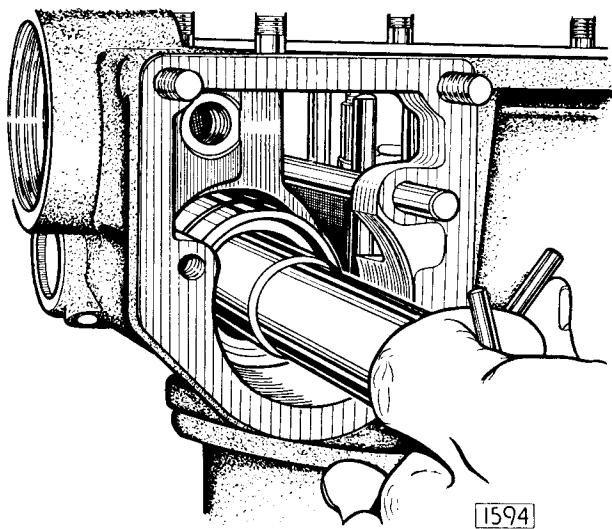

Fig. 38. Extracting the accumulator piston housing. (Tool No. L.182).
2. The spring, piston housing assembly and piston can now be withdrawn (see Fig. 38).